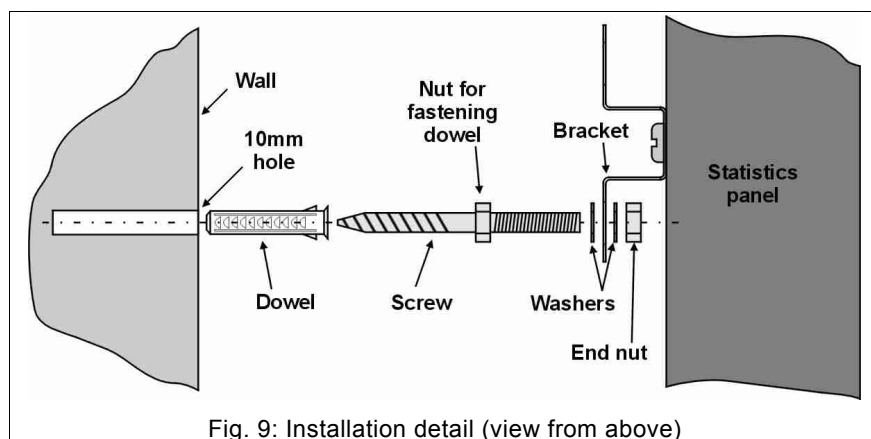

Fig. 9: Installation detail (view from above)
- Insert a dowel in each of the holes and then insert the screws by working the nut with a 13 mm wrench (Fig. 9); insert the washers.